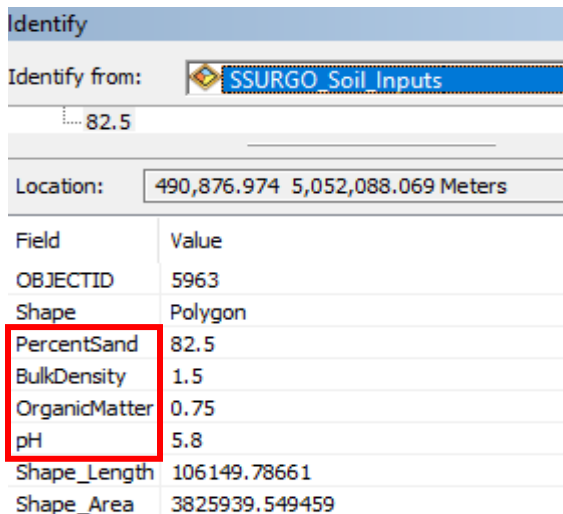

Figure 22. SSURGO Soil Inputs
- Sand Content, Soil Bulk Density, Soil Organic Matter, and pH values can all be obtained from the SSURGO_Soil_Inputs layer included in the toolbox (Figure 22).